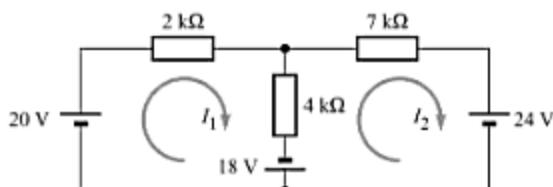

Fig. A-70
- A-28. Solve for the mesh currents in the circuit of Fig. A-70. [Ans. $I_1 = 5\text{ mA}$, $I_2 = -2\text{ mA}$]
- A-29. Determine the mesh currents in the circuit of Fig. A-70, if the 24-V source is replaced by a source of -1 V . [Ans. $I_1 = 7\text{ mA}$, $I_2 = \text{mA}$]